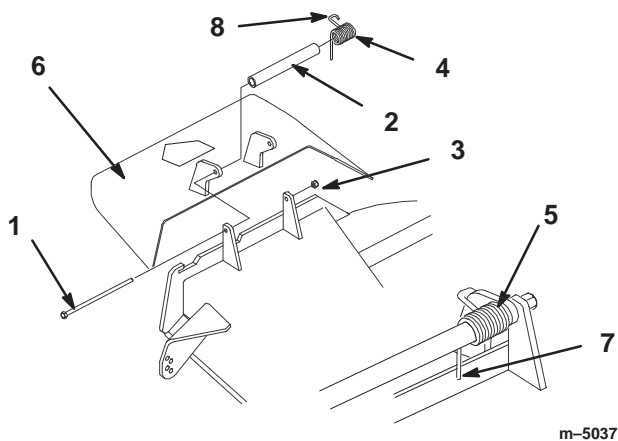

Figure 64
1. Remove the locknut, bolt, spring and spacer holding the deflector to the pivot brackets (Fig. 64). Remove damaged or worn grass deflector.
Note: Make sure the straight end of spring is installed behind deck edge before installing the bolt as shown in figure 64.
3. Install bolt and nut. Place hook end of spring around grass deflector (Fig. 64).